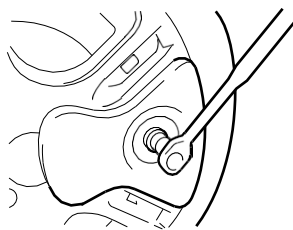

Fig. 6
- Tighten the locking bolt socket using the wheel spanner provided (or ratchet as shown) to wheel torque. (Fig. 6)